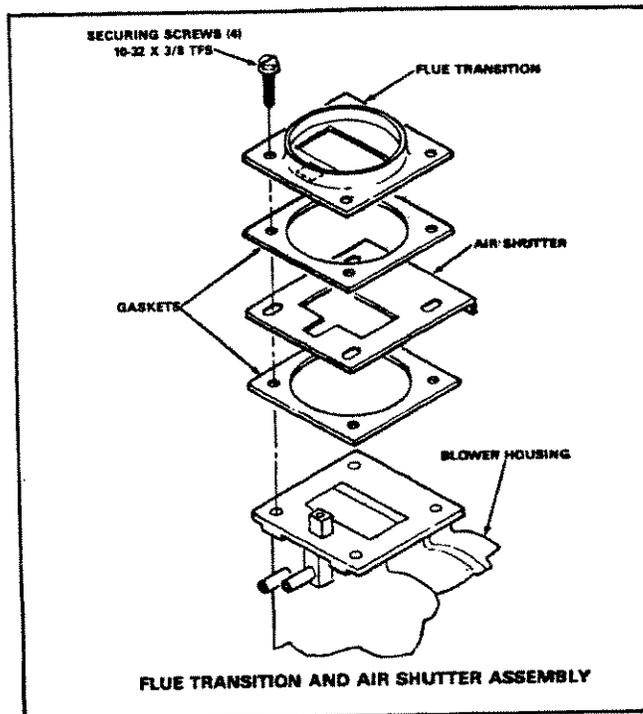

FIGURE 6
- 2 - If the operating concentration of CO₂ in the flue products does not fall within this range, loosen the flue transition securing screws and adjust the air shutter (See figure 6). Adjust the shutter toward the back of the unit to reduce the CO₂ concentration and toward the front to increase the concentration.